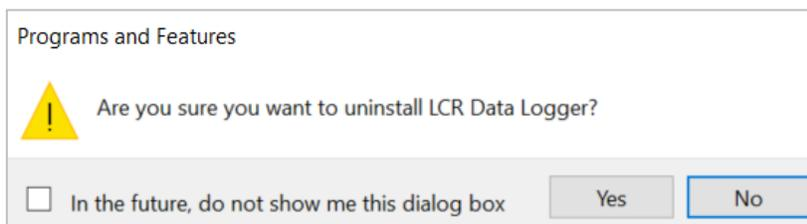

Figure 8-3: Confirm Uninstallation
5. A dialog box will appear as Figure 8-3 shows. It prompts you to confirm the complete removal of the application. Click **Yes** to proceed. To cancel the uninstallation, click **No**.